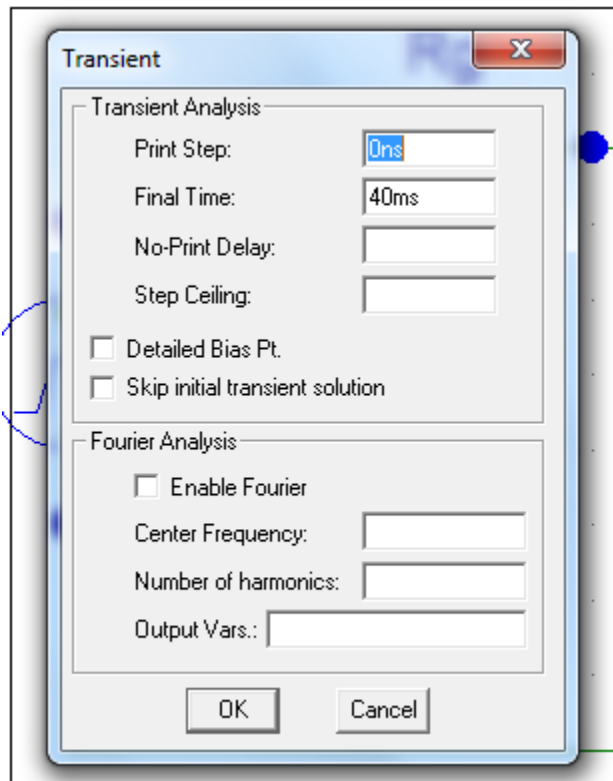

Fig 5.6: Transient Analysis window.
- 6- Finally, enter the transient setting which are shown in fig 5.6.